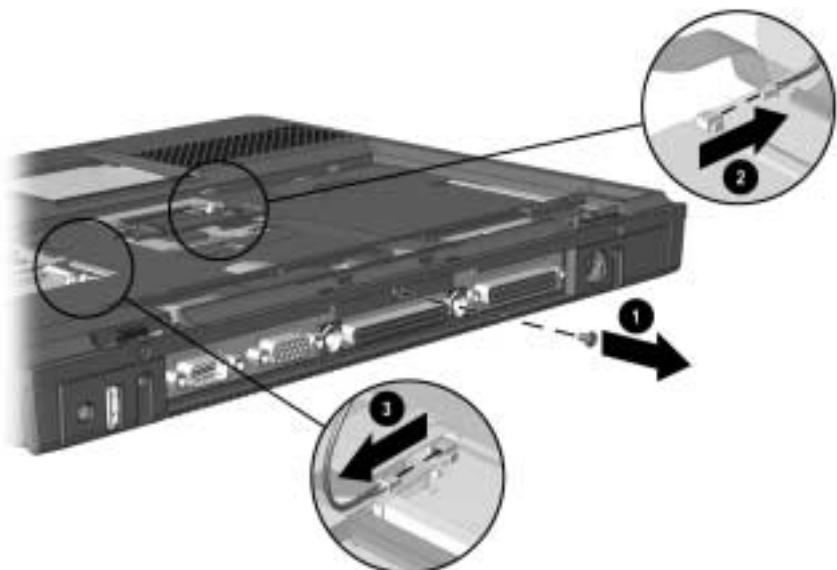

Figure 5-20. *Removing the Top Cover Rear Panel Screw and Disconnecting the Speaker Cables*
8. Remove the screw **1** that secures the top cover to the base enclosure (Figure 5-20).